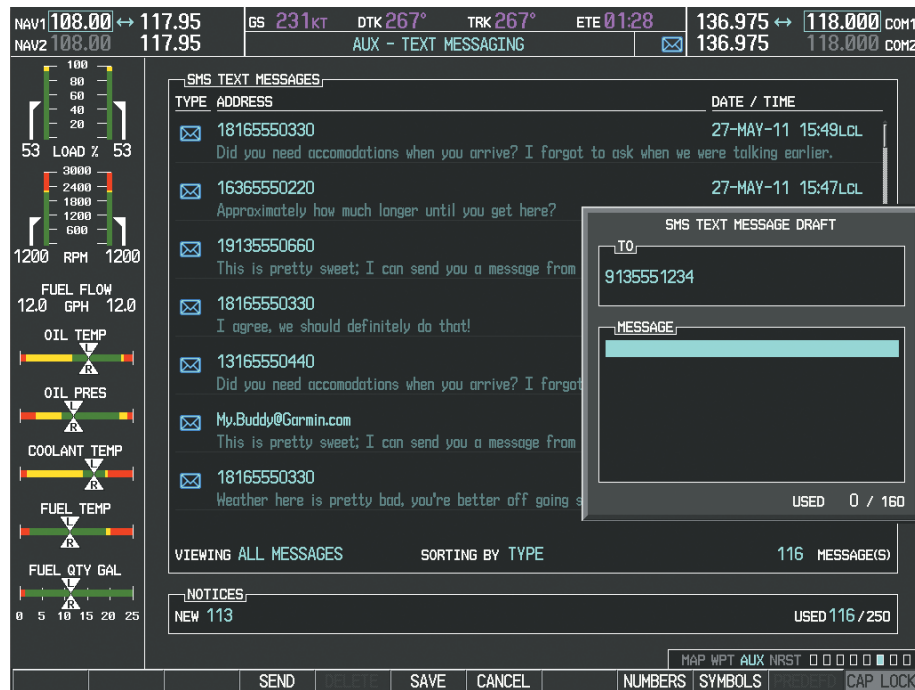

Figure 8-92 Composing a New Text Message
- 2) The TEXT MESSAGE DRAFT Window is now displayed with the cursor in the 'TO' field. Enter the desired telephone number or email address. Entry can be accomplished through the alphanumeric keys on the MFD Controller, or combination of the **FMS** Knob on the controller and softkeys on the MFD. The **FMS** Knob is used to enter letters and numbers, or numbers can be entered from the MFD by selecting the **NUMBERS** Softkey. Press the **CAP LOCK** Softkey to create upper and lower case alpha characters. Special characters can be accessed by selecting the **SYMBOLS** Softkey. See Figure 8-92.